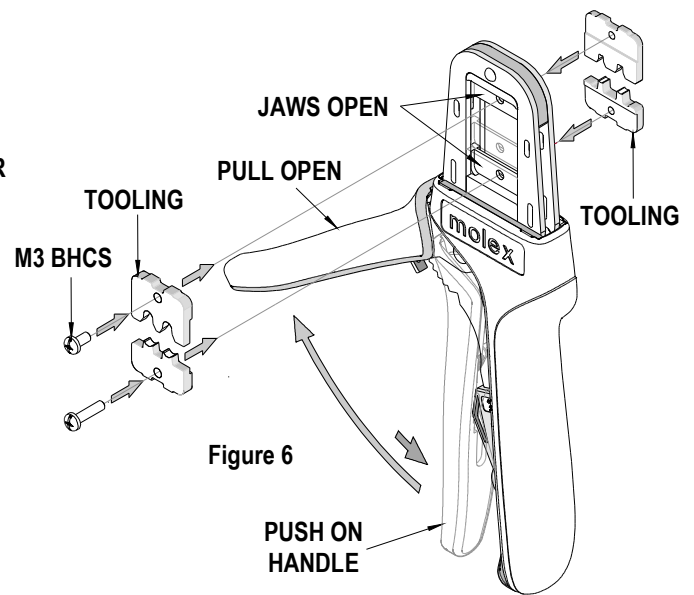

Figure 6
3. Flip the upper tooling to the opposite side and replace the M3 BHCS. Make sure the small markings on the front and back of the hand tool frame, match up and are on the outside of the hand tool frame. See Figure 6 and 7.